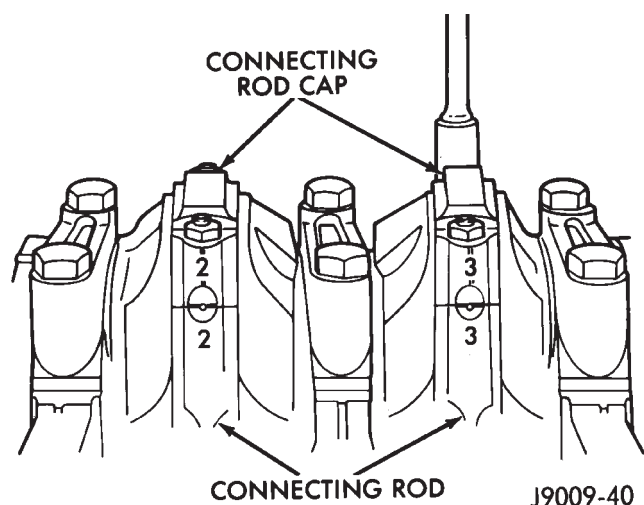

Fig. 9 Stamped Connecting Rods and Caps
(1) Remove the engine cylinder head cover.
(2) Remove the rocker arms, bridges and pivots.
(3) Remove the push rods.
(4) Remove the engine cylinder head.
(5) Position the pistons one at a time near the bottom of the stroke. Use a ridge reamer to remove the ridge from the top end of the cylinder walls. Use a protective cloth to collect the cuttings.
(6) Raise the vehicle.
(7) Drain the engine oil.
(8) Remove the oil pan and gasket.
(9) Remove the connecting rod bearing caps and inserts. Retain in the same order as removed. The connecting rods and caps are stamped with the corresponding cylinder number (Fig. 9).
(10) Lower the vehicle until it is about 2 feet from the floor.